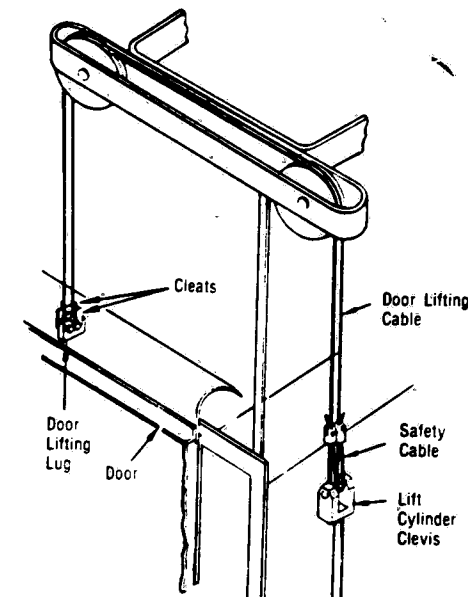

Figure 7-1. ROUTING DOOR LIFTING CABLE.
6. Refer to Figures 7-1 and 7-2 and connect one end of door lifting cable to cleat that is away from you.